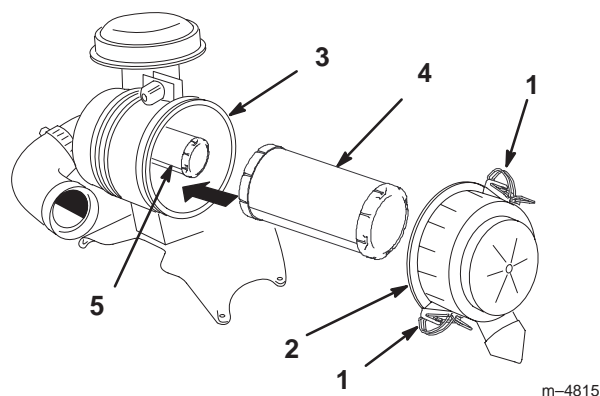

Figure 38
3. Release the latches on the air cleaner and pull the air cleaner cover off of the air cleaner body (Fig. 38).
5. Gently slide the primary filter out of the air cleaner body (Fig. 38). Avoid knocking the filter into the side of the body.
2. If the safety filter is being replaced, carefully slide it into the filter body (Fig. 38).
3. Carefully slide the primary filter over the safety filter (Fig. 38). Ensure that it is fully seated by pushing on the outer rim of the filter while installing it.
4. Install the air cleaner cover with the side indicated as UP facing up and secure the latches (Fig. 38).